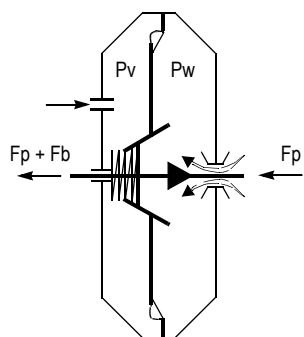

Figure 2. Braking Phase
Once the brake pedal is activated (force F_p), the vacuum valve is closed and the air intake valve is open proportionally to the displacement of the push rod (Figure 2). The working chamber is progressively open to atmospheric pressure, which creates a differential between the vacuum chamber and the working chamber. This differential pressure applied to the surface (S) of the piston results in a force $F_b = (P_w - P_v) \times S$.